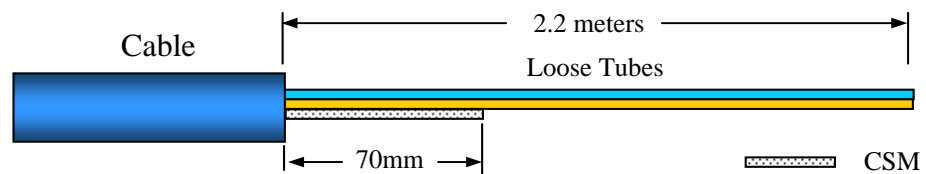

Figure 3. Cable sheath length for removal
- a) Remove the outer cable sheath to expose **2.2 meters** of loose tube and Central Strength Member (CSM). Cut the CSM to 70mm long, see Figure 3 below.